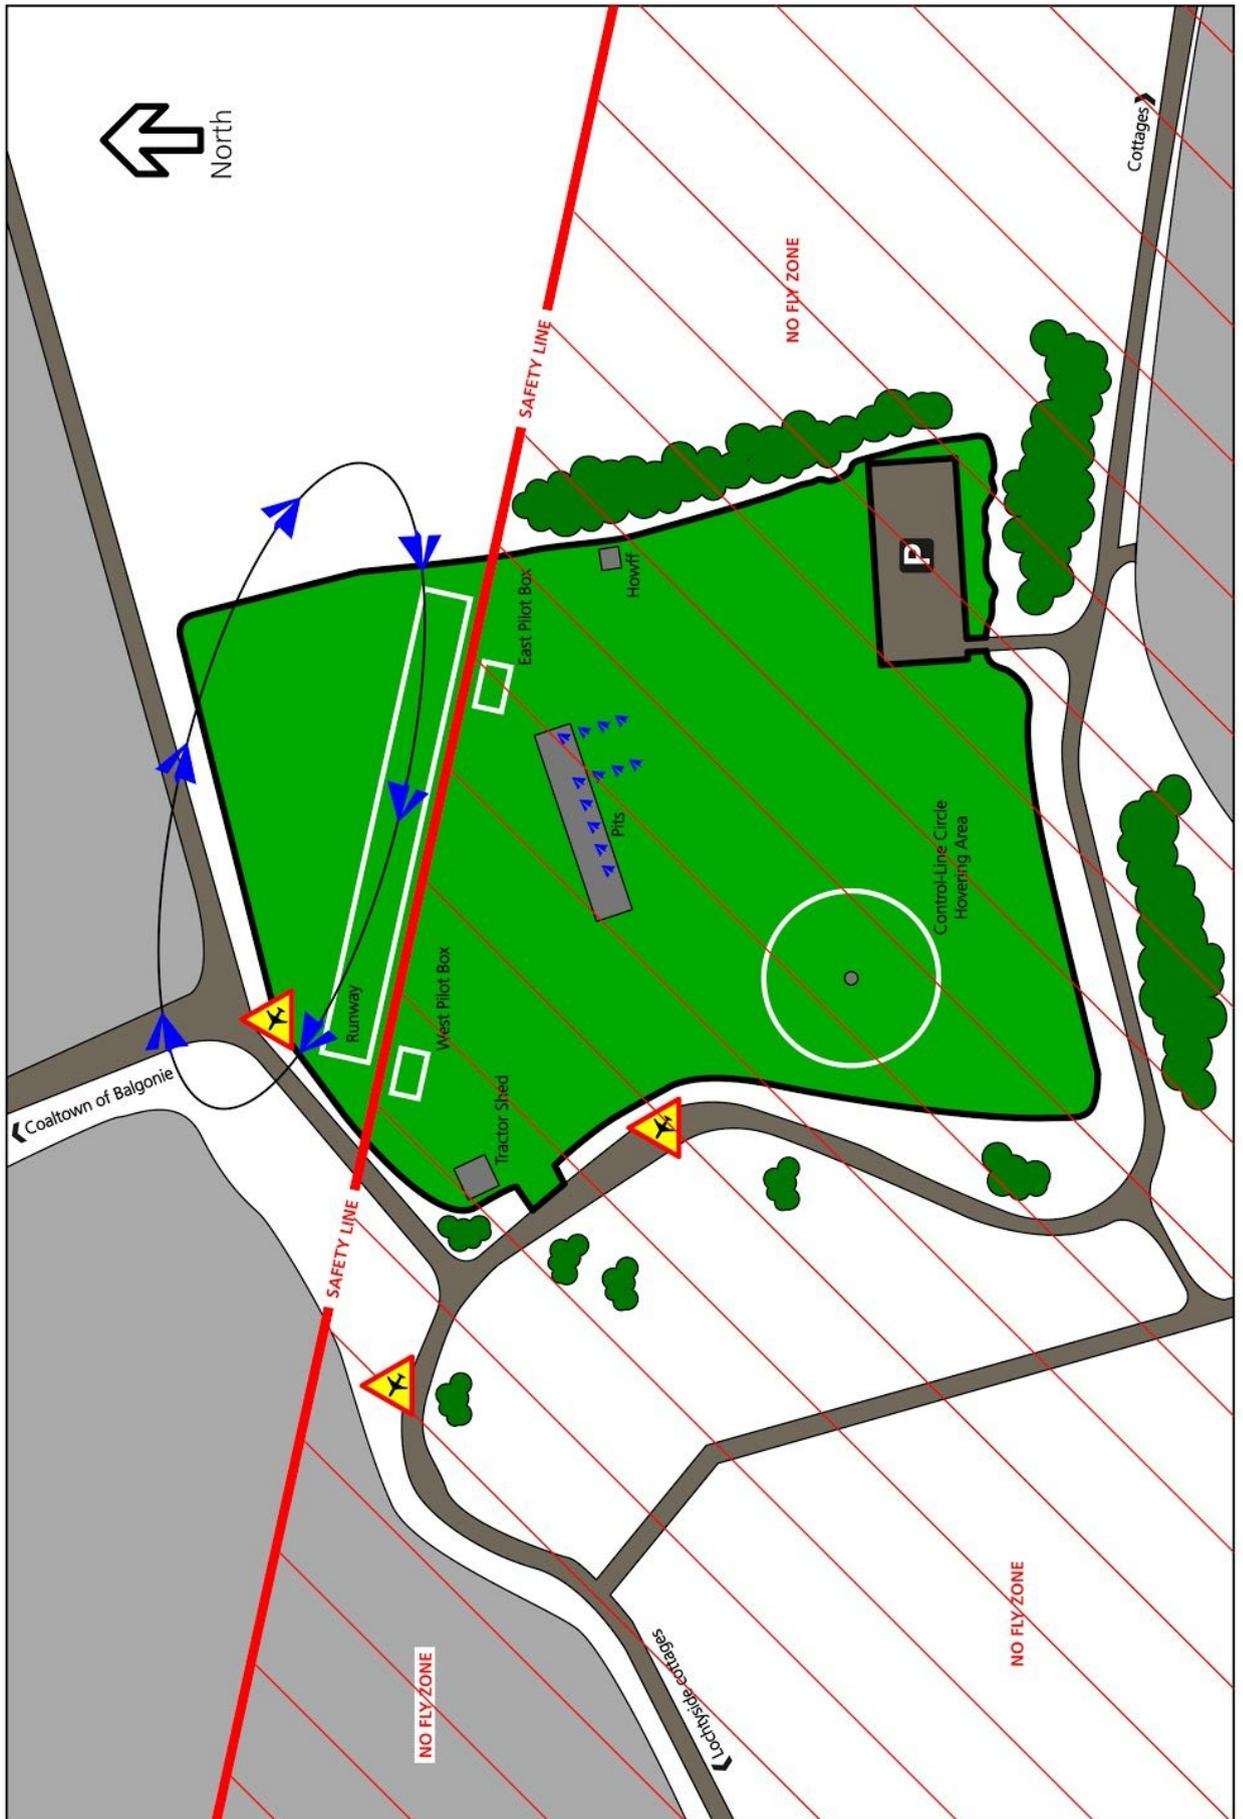
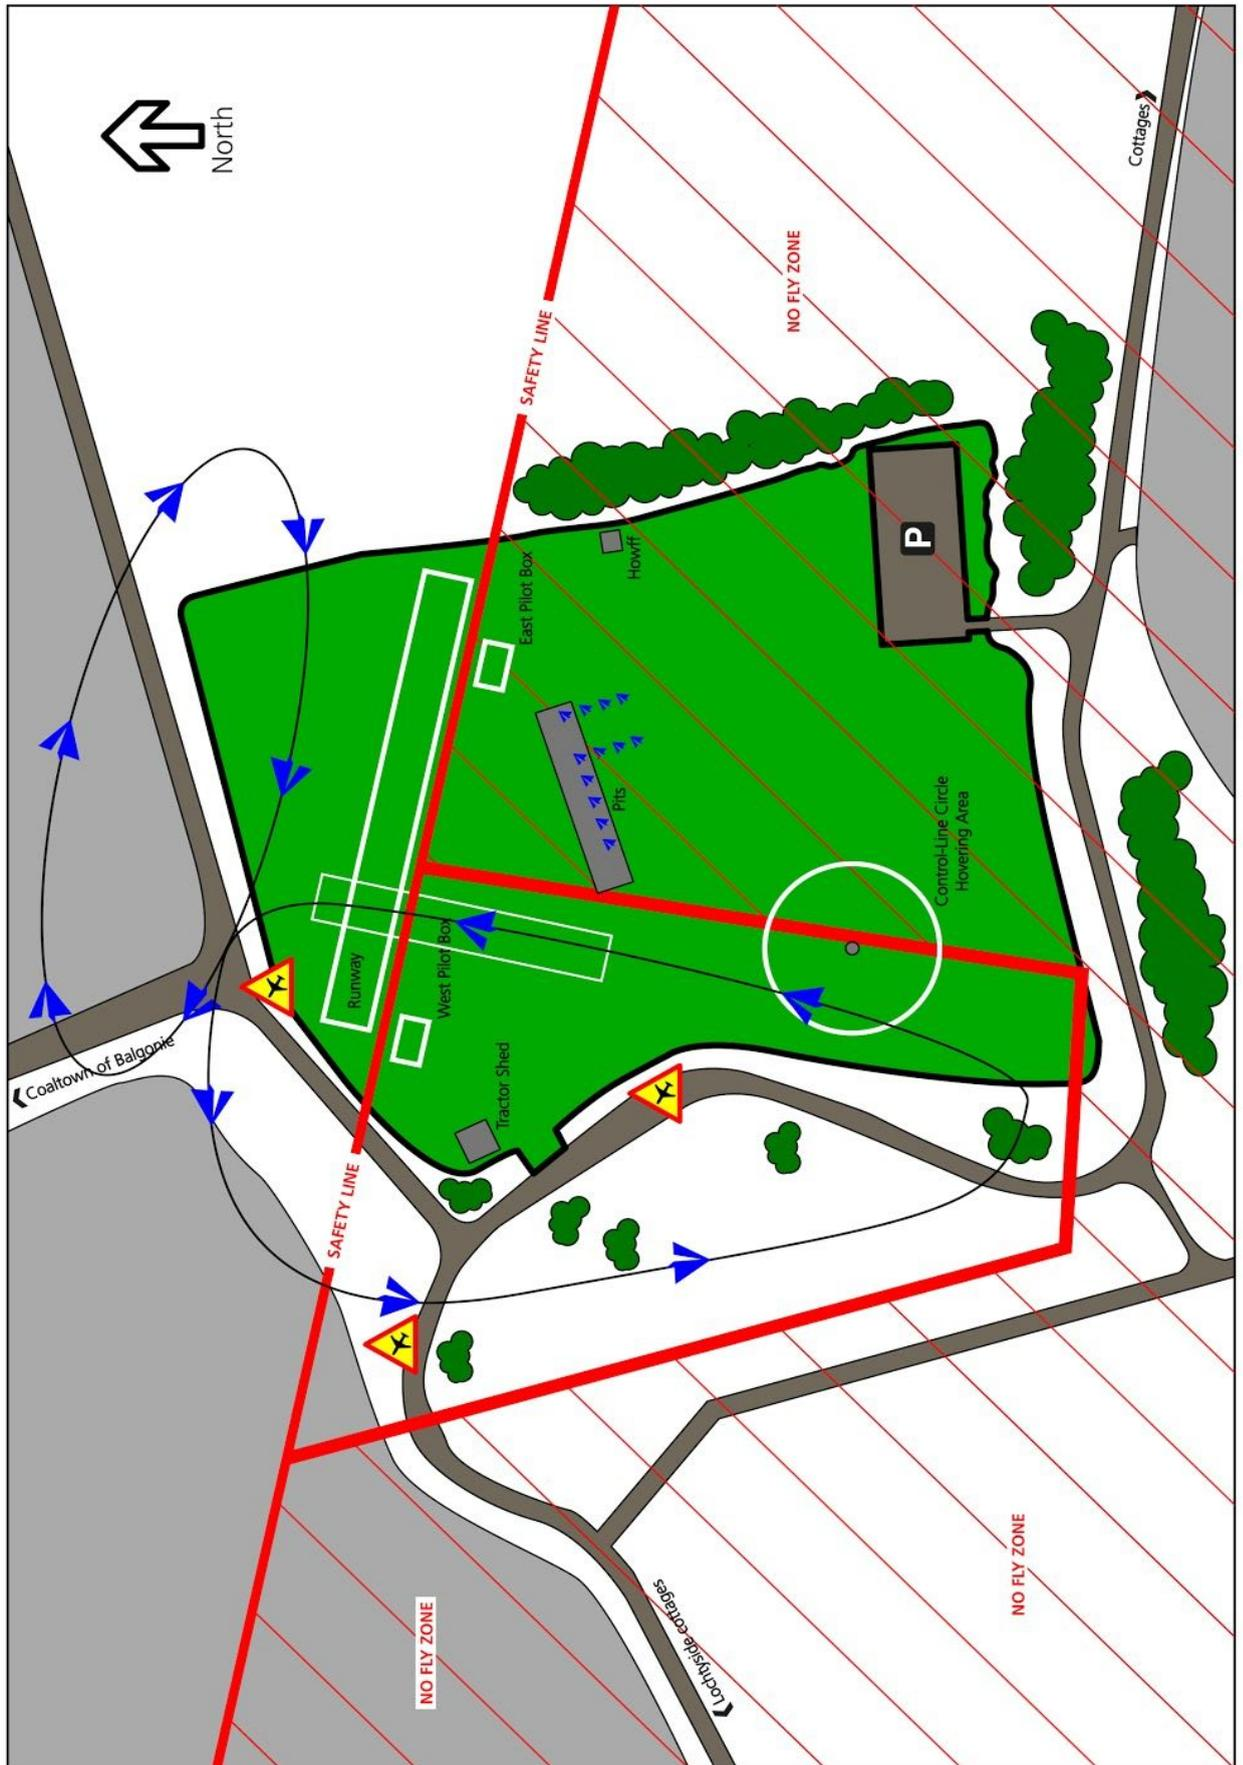

Fig 1 - East or West Active Runway
Fig 2 - North-South Active Runway - Take-off and Landing only - East pilot box
- 2.3 All members should assume, from a personal safety perspective, that both the east-west and north-south runways (see figs 1 and 2) are active at all times and extend the appropriate care, attention and awareness at all times.
- 3.3 Models over 7Kg - **Caution Low Flying Aircraft** warning signs are to be erected and displayed before the models can be flown. Models are restricted to a maximum altitude of 400 feet (122 metres) as per **CAP 658**. See Figs 1 and 2 for sign placement.
- 5.1 A model pits area will be established no less than ten metres from the car park and the pits will be confined to the areas marked on the map within Figs 1 or 2.
- 6.1 **Glenrothes Aeromodelling Club** operate two runways, east – west (primary) - see Fig 1 - and north - south (secondary) - see Fig 2.
- 6.2 The safety line (see Figs 1 and 2) is a line extended from the grey box on the railway line to the east of the flying field and through the trees to the north-west of the tractor shed.
- 6.3 Take-off, hand launching, climb-out, approach, landing and low-pass manoeuvres must all be conducted at least five metres north of the safety line when either east-west or west-east runways are in use. The safety line is denoted by the marked grass at the edge of the runways. (Figs 1 and 2)
- 6.11 When the north-south runway is in use, it is to be used for take-off and landings only. Take-offs are restricted to north only whilst landings can be from the north or south. Take-off, hand-launch and all flying, must be conducted at least five metres to the north of the safety line. All approaches and landings from the south must stay inside the extended pocket as marked in Fig 2 and must not stray into the hatched no-fly zone.
- 6.12 When the west end pilot box is active, the north-south runway will be taken out of use. The safety line and the no-fly zone in fig 1 will apply.
- 6.13 When the control-line circle/hovering area is in use, the no-fly zones in fig 1 will apply. That is, all take-offs, landings, flying and emergency approaches must be completed to the north of the safety line.